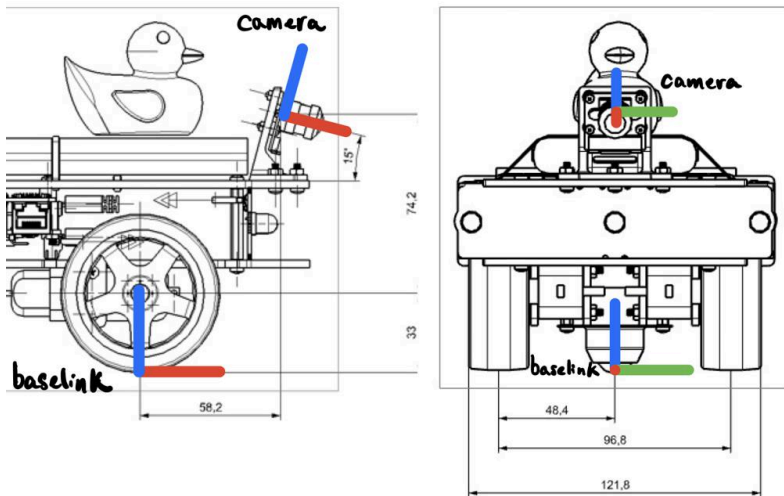

Figure 4.2. Position of the baselink and camera frames on the robot
- `transform`: a 2D pose of the robot base link (see Figure 4.2 for a definition of this frame).
- `transform`: a 3D pose of the robot baselink (see Figure 4.2 for a definition of this frame).
) use Figure 4.3 as reference. To calculate the static transform between the `baselink` and `camera` frames, you can use Figure 4.2 as reference, or you can try to use the homography matrix obtained during extrinsic calibration.